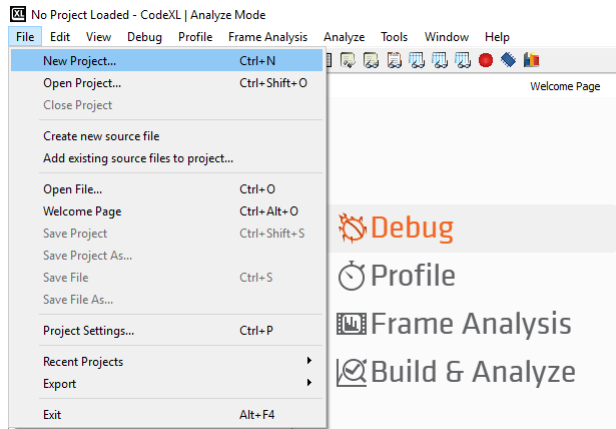

Figure 2: New project.
- Under *File* select *New Project*, set the project name and leave everything else with the default settings as depicted in figures 2 and 3.